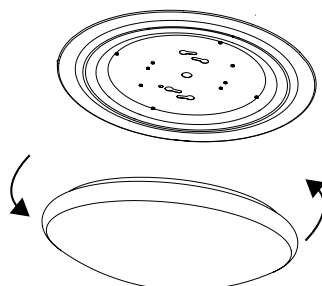

Figure 1
2. Remove diffuser by twisting out of plate (see figure 1).